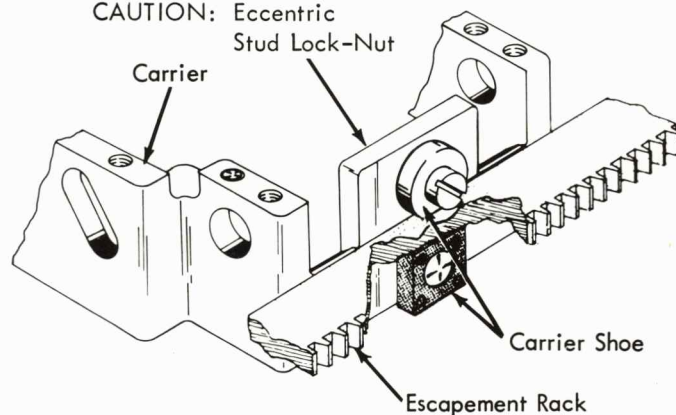

FIGURE 91. Carrier Shoe - Old Style
- a. Carrier Shoe (early) - Adjust the upper carrier shoe eccentric mounting stud to provide .001" to .004" vertical motion of the carrier at the rear (Fig. 91). Check at several points along the writing line.